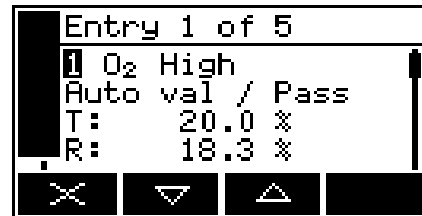

Figure 72 – The validation/calibration history screen (initial view)
2. This screen shows the target value (T) and the actual measurement reading (R) before val/cal was carried out.
- "Calibration <x>/<y>" (as in Figure 72 above), where <x> is the number of the displayed calibration point and <y> is the total number of calibration points stored.